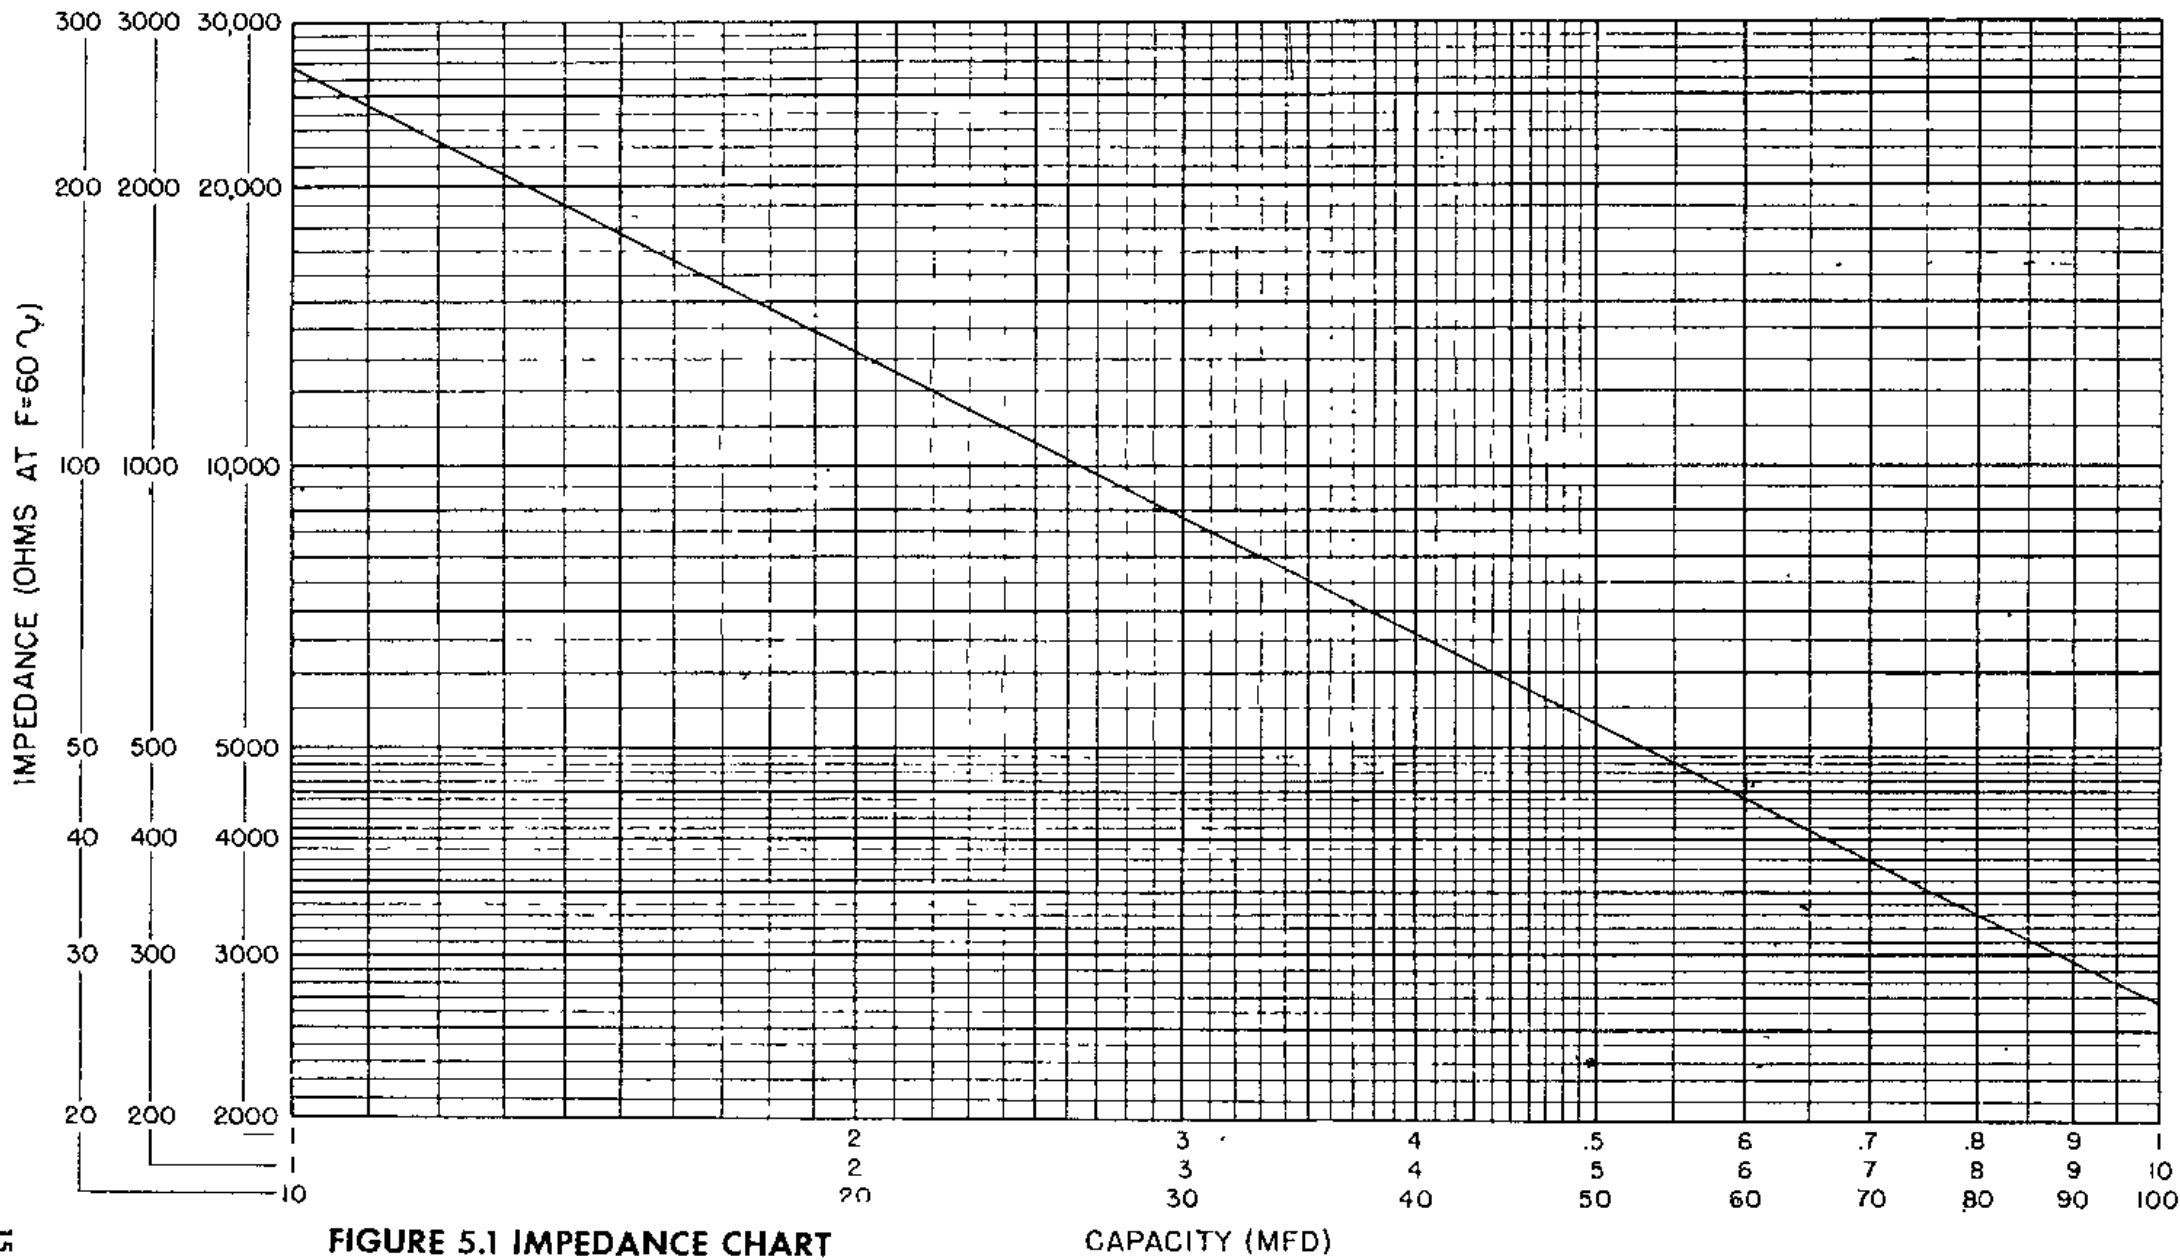

FIGURE 5.1 IMPEDANCE CHART
(1) Read the numerical value of the capacity directly from the scale. Find the associated impedance on the graph given in Figure 5.1. This value is ZL in the formula below.
(2) Note the RANGE SELECTOR, whether it is on X1 - X10 - X100, etc. ohms. This value is in the formula below.
(3) Determine the resistance of the inductance by means of an ohmmeter. This value is RL in the same formula.
(4) Knowing RL and whether the selector switch was on X1 - X10 - X100 etc., also knowing RL determines the inductive reactance XL from the formula below.
Therefore, the error due to the resistance is greater than 1%. Referring to the graph in Figure 5.1, we find that the impedance for a capacity reading of 8.8 MFD is 300 ohms. Substituting in the formula: